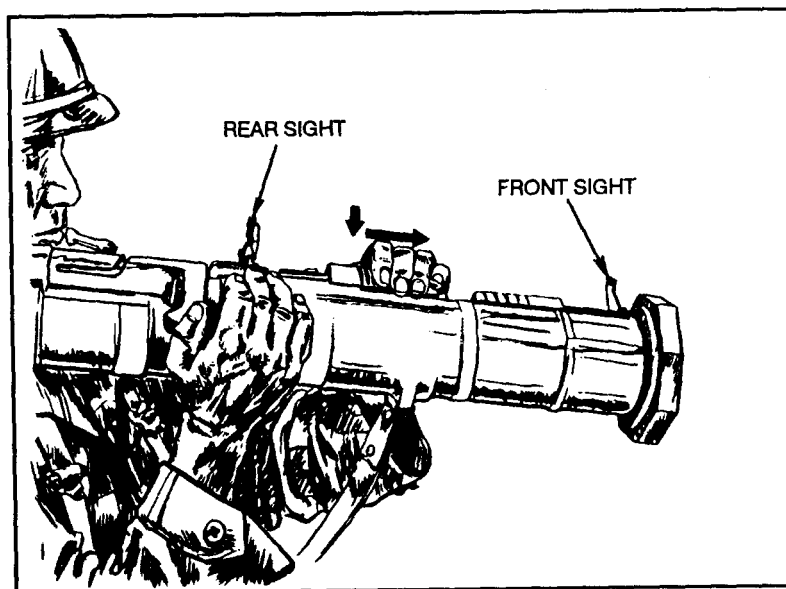

Figure 3-15. Opening and adjusting the sights.
d. If the AT4 is on your right shoulder, stabilize it with your right hand and open the sights with your left. If you are cradling the weapon, open the sights with your left hand. Press down and pull backward on the front sight cover until the front sight pops up (Figure 3-15), then press down and forward on the rear sight cover until the rear sight pops up. The rear sight should be no less than 2 1/2 inches and no more than 3 inches from your eyes.